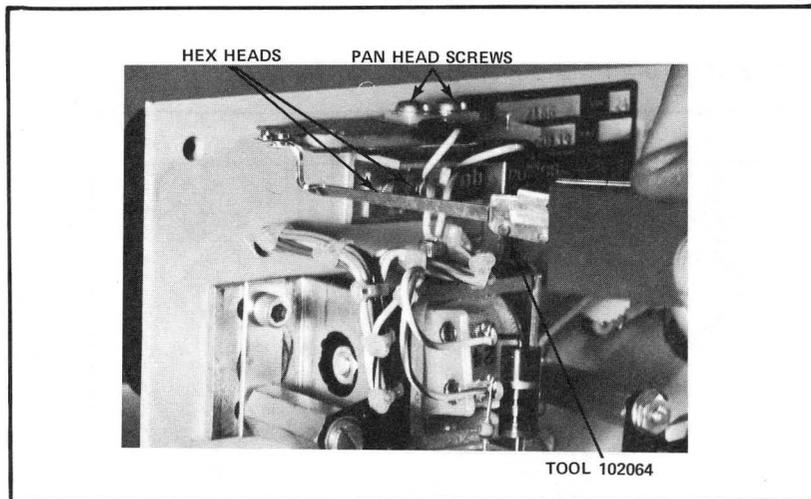

Figure 6-14 Interrupter Switch Blade Tension Adjustment
- (2) To adjust, loosen the two pan head mounting screws sufficiently to permit forming of switch blades as required to obtain proper tension. Use bender (number 102038) and contact adjustment screw driver (see Table 7-1). Securely tighten the two screws. See Figure 6-14.
- (3) Repeat step (1).